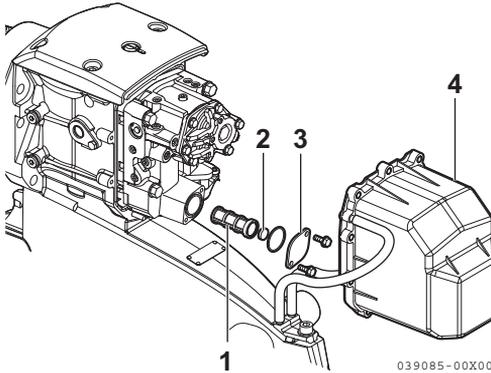

Figure 13
- Remove the case plate cover (4, **Figure 13**), filter cover (3, **Figure 13**), magnet (2, **Figure 13**) and filter (1, **Figure 13**). Clean or replace the filter and magnet.